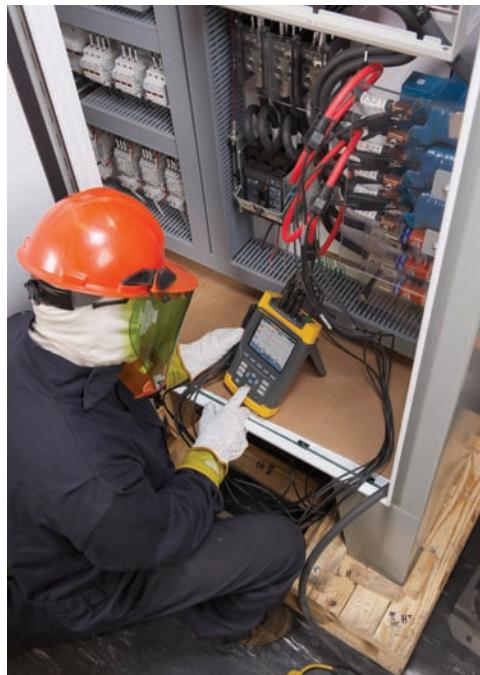

Figure 10-33 Taking measurements on a VFD.
- Verify that there is no voltage present at the AC input power terminals (Figure 10-33). It's important to remember that DC bus capacitors retain hazardous voltages after input power has been disconnected. Therefore, wait 5 minutes for the DC bus capacitors to discharge once power has been disconnected. Check the voltage with a voltmeter to ensure that the capacitors have discharged before touching any internal components.